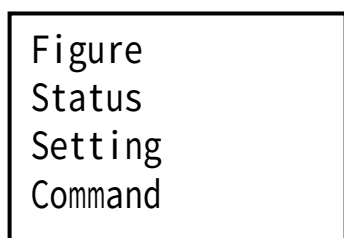

Fig.3 : Main menu
- 3) Press the ◀ or ▶ button, it will change to main menu, see Fig3,